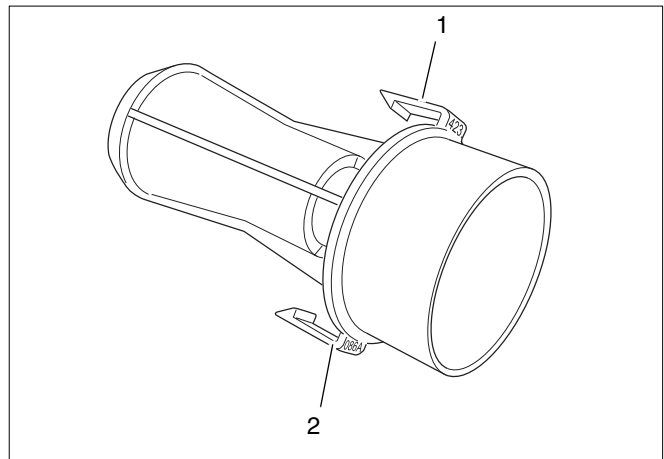

Fig. 140 Venturi article number
- The venturi article number is marked on both clips of the venturi (see fig. 140, pos. 1 and 2).